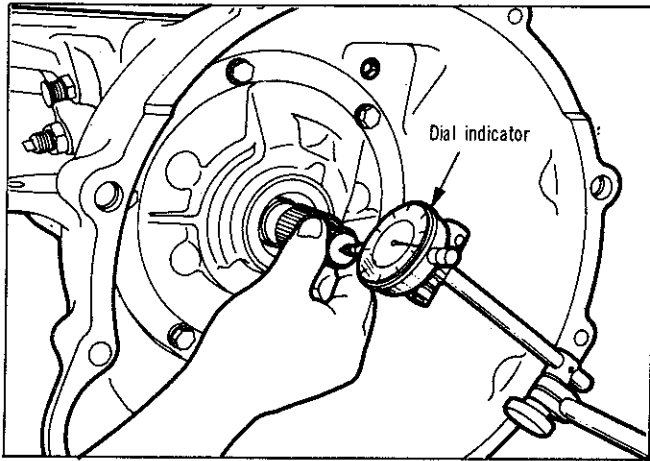

Fig. 32—Measuring input shaft end play
(1) Attach a dial indicator to transmission bell housing with its plunger seated against end of input shaft (Fig. 32).